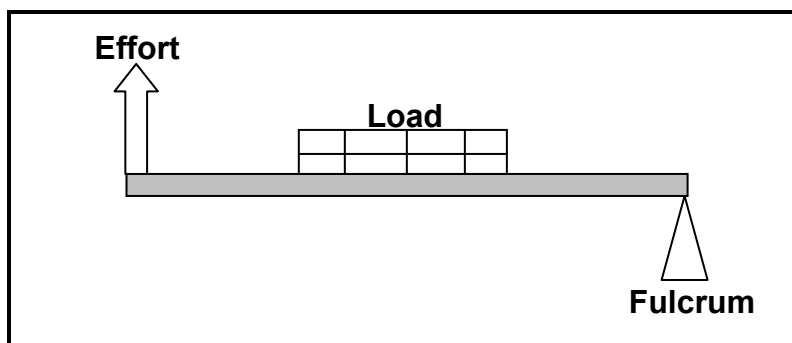

FIGURE 1.13
1.13 What class of lever is shown in FIGURE 1.13 below?